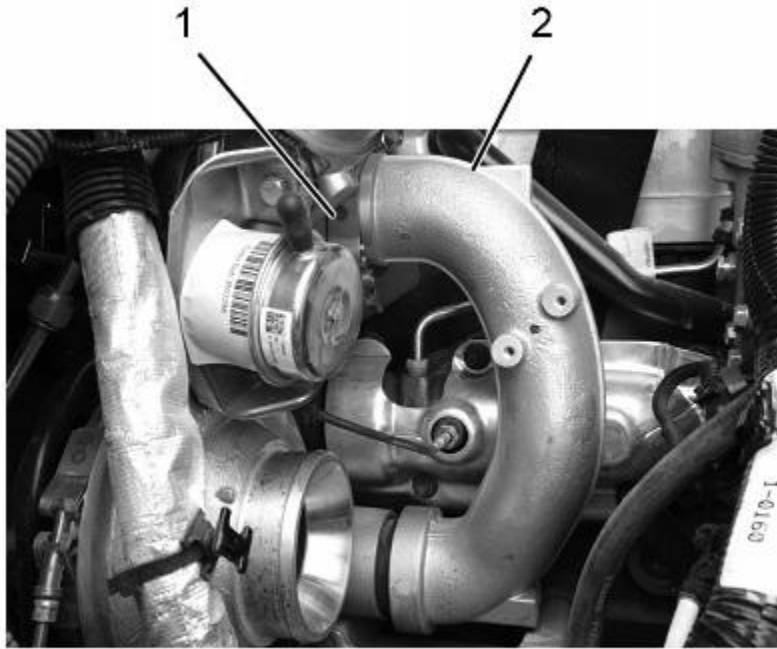

Figure 16. Crossover Tube.
12. Inspect crossover tube (Figure 16, Item 2) seal for damage. If damaged, discard seal.
14. Install crossover tube (Figure 16, Item 2) on to HP turbocharger with V-band clamp (Figure 16, Item 1).